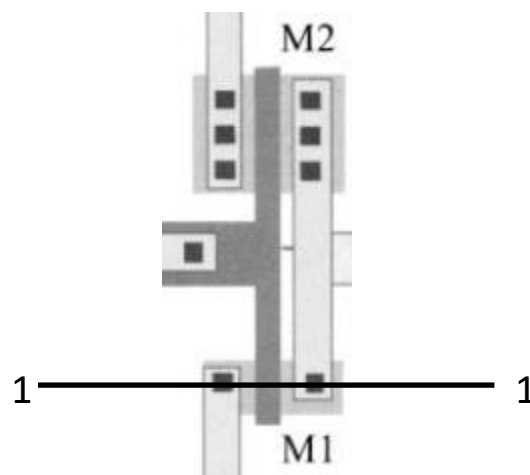

Figure 1
1. (a) (i) Draw the schematic circuit for the layout in Figure 1.
- (ii) Explain in detail the processes of the fabrication of a MOSFET where the layout is shown in Figure 1. Your explanation and sketches should be based on the cross sectional view of section 1-1.